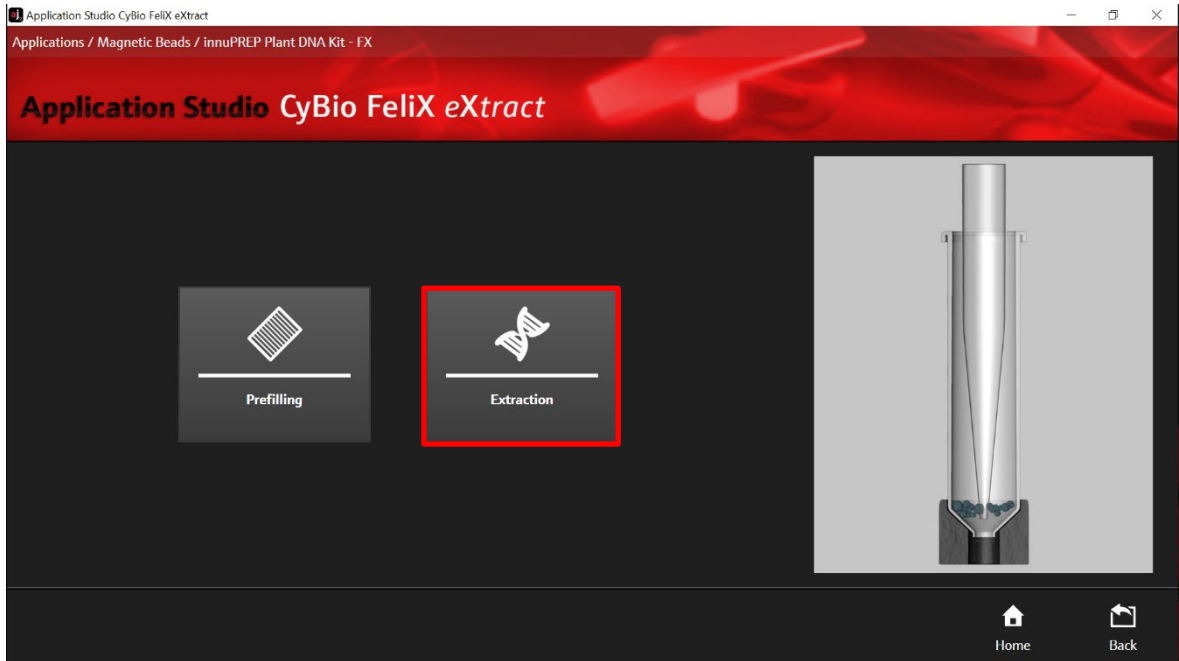

Figure 13: Routine selection: Extraction
5. Select "Extraction" (→ see Figure 13).